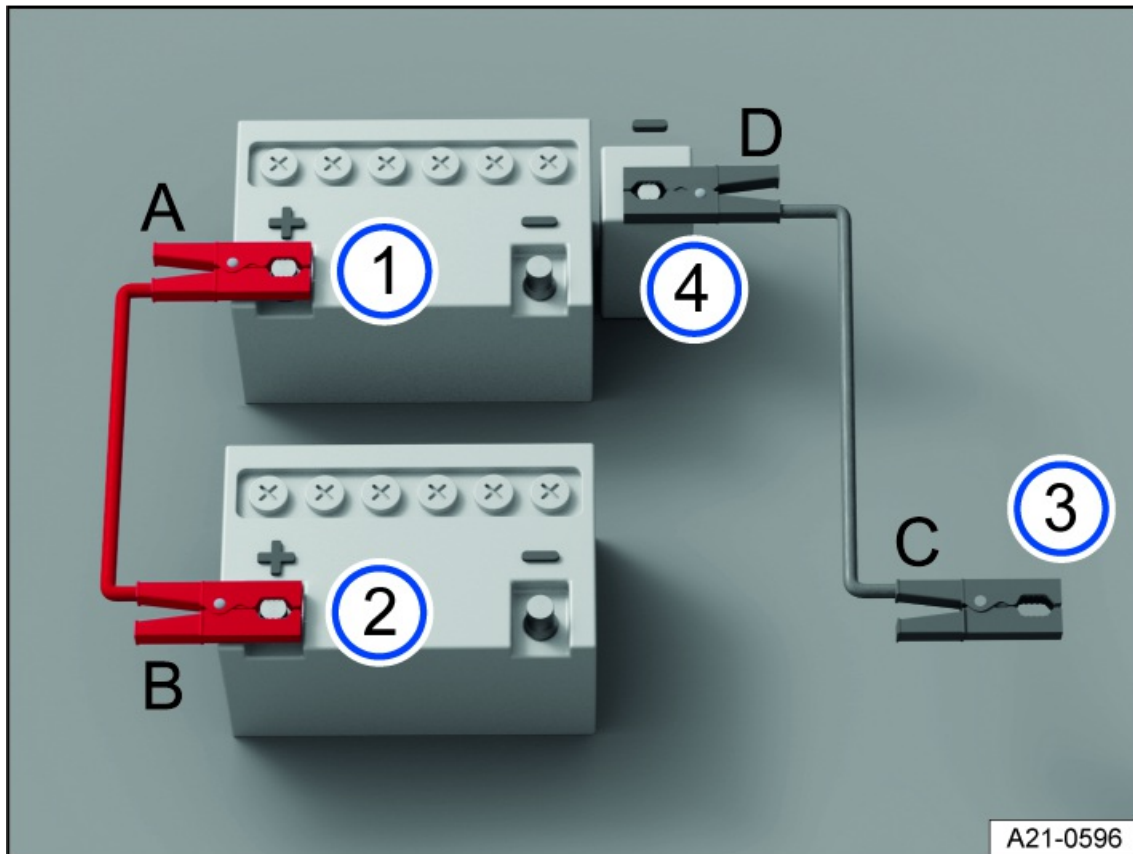

Fig. 150 Diagram for connecting the jumper cables.
Only connect the jumper cables in the sequence A – B – C – D *fig. 150*.
3. Connect one end of the red jumper cable to the positive battery terminal (+) of the 12 V vehicle battery with the discharged 12 V vehicle battery *fig. 150*  .
4. Connect the other end of the red jumper cable to the positive battery terminal (+) on the vehicle providing current *fig. 150* .
5. Connect one end of the black jumper cable to a negative terminal jump-start point – on the vehicle with the 12 V vehicle battery providing the jump-start *fig. 150* .
- Or:** If there is no negative terminal jump-start point (–), connect the end of the black jumper cable to a large metal part that is bolted securely to the engine block, or the engine block itself, on the vehicle with the 12 V vehicle battery providing current *fig. 150* .
6. Connect the other end of the black jumper cable to the negative terminal jump-start point (–) on the vehicle with the discharged 12 V vehicle battery *fig. 150*  .
3. Once the vehicle has been jump-started, always disconnect the jumper cables in the order D – C – B – A *fig. 150*.